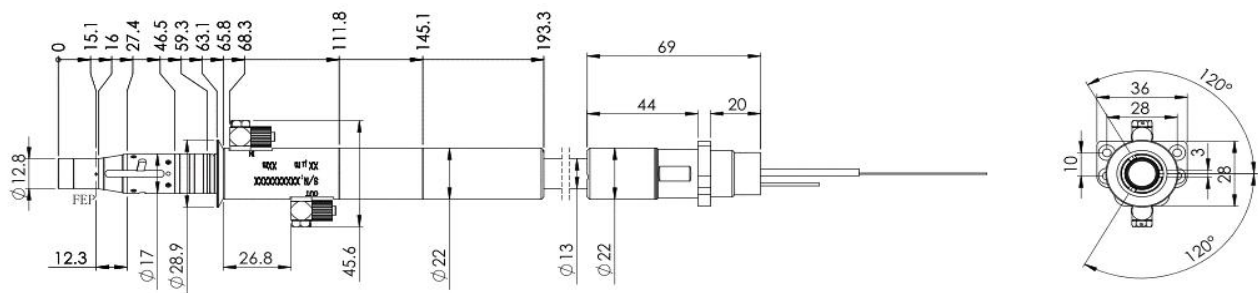

Figure 4 External dimensions of the RFL-HQBH fiber delivery cable connector
1) RFL-C3000XZ/C4000XZ/C6000XZ uses the RFL-HQBH model cable connector, and the external dimensions of the cable connector are shown in Figure 4: